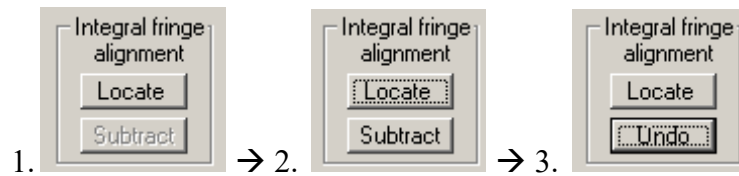
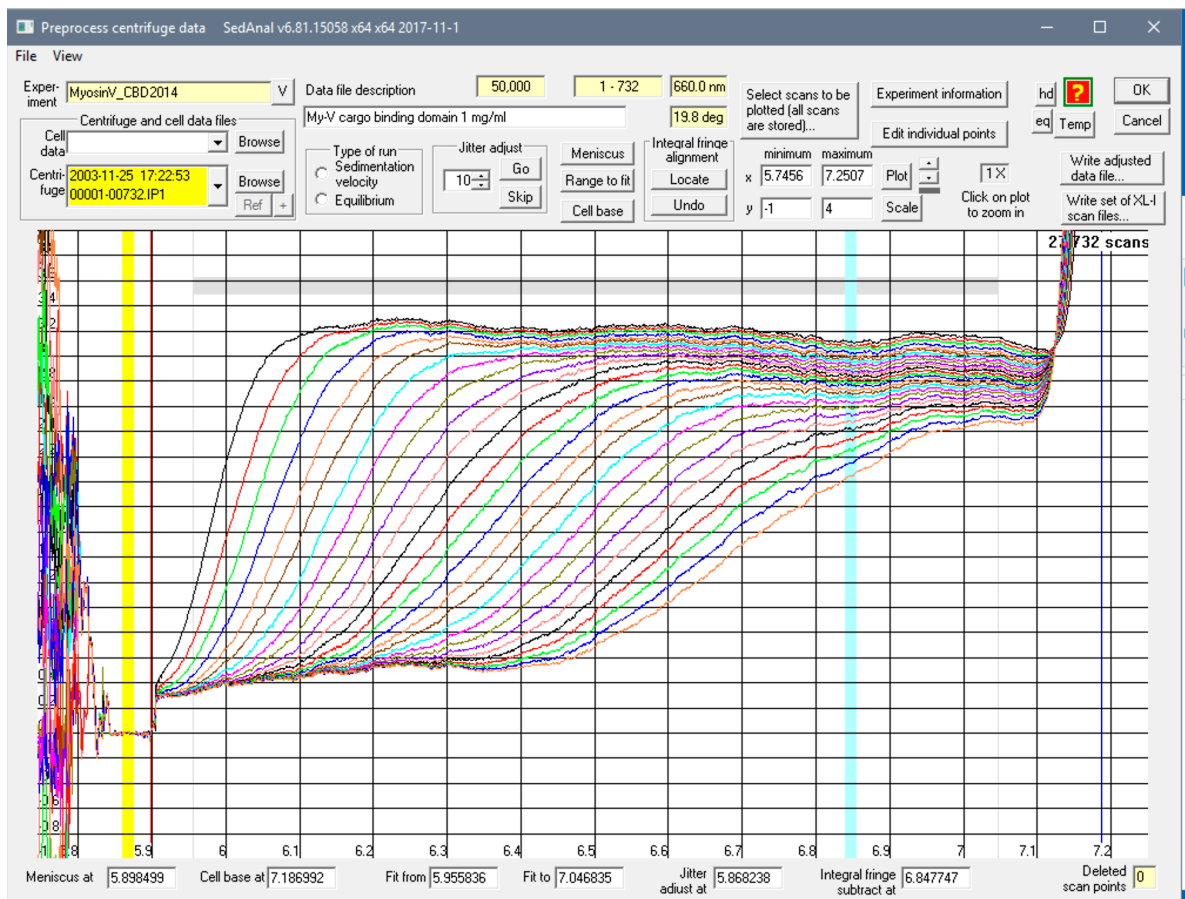

Figure 4-35 Re-adjust the data for integral fringe shifts.
Figure 4-36 Scans adjusted for integral fringe shifts
The next step is to re-adjust the data for integral fringe shifts introduced by the data acquisition software at the meniscus. Next (1) click on the "Locate" button and select a spot – usually someplace near the bottom in the plateau region – by clicking there. Then (2) click the "Subtract" button. The result will be as shown in Figure 4-36, and the buttons will look like (3) above (Figure 4-35). Clicking the "undo" button will undo the last adjustment.
After the fringe adjustments have been completed and after the meniscus, base and range to be fitted have been selected, the screen will look like one presented in with all five windows at the bottom filled in their corresponding values (Figure 4-36).